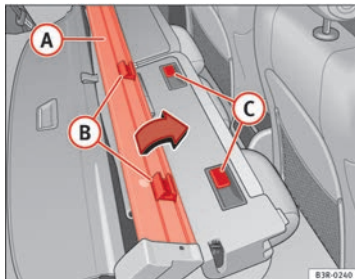

Fig. 121 Installing luggage compartment cover / net partition
- Fit the net partition **A** on the backrest so that the retainers **B** are located next to the retaining rails **C** ⇒ Fig. 121.